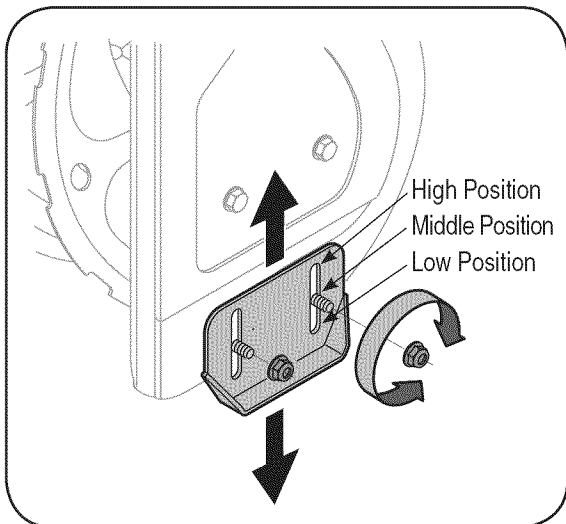
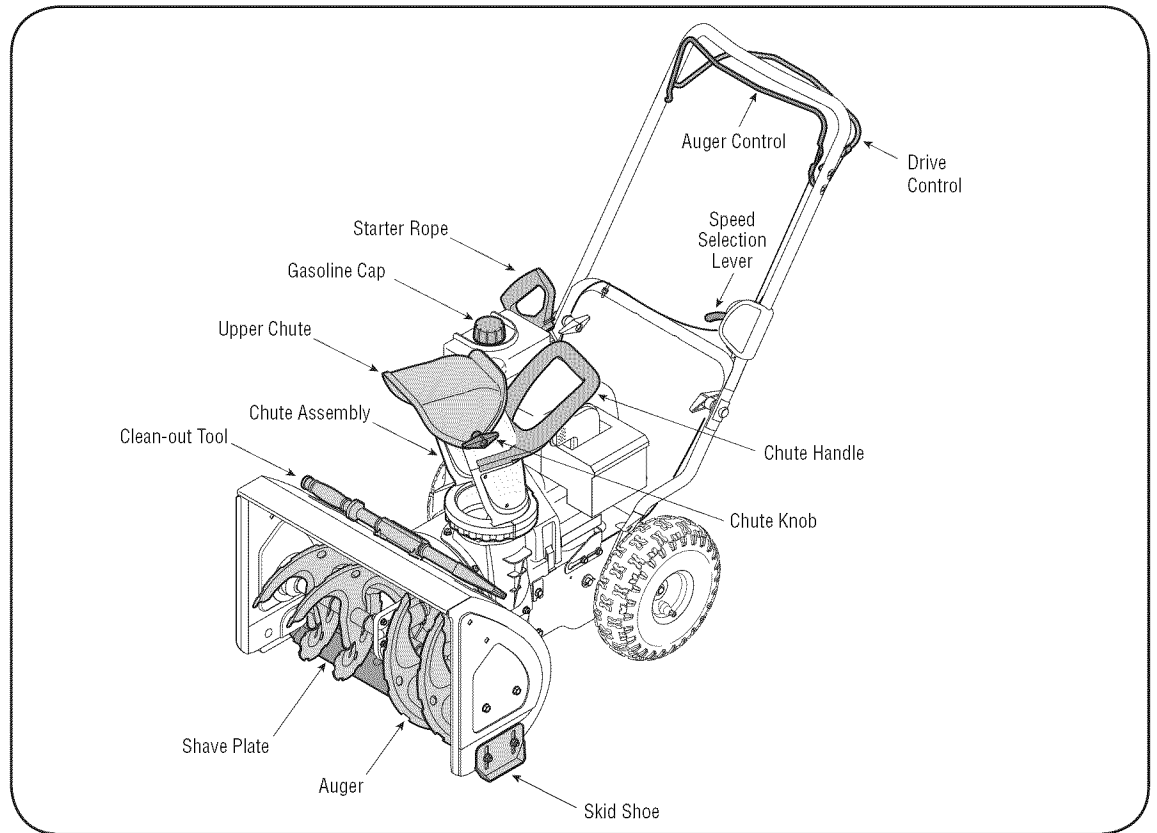

Figure 4
Figure 6
1. Adjust skid shoes by loosening two hex nuts and carriage bolts on each skid shoe, and move skid shoe to the desired position. See Figure 4.
The space between the shave plate and the ground can be adjusted. Refer to Figure 6 for location of shave plate and skid shoes. For close snow removal, place skid shoes in the low position. When the area to be cleared is uneven, place skid shoes in the middle or high position. See Figure 4.
NOTE: Compare Figures 6 & 7 with your equipment and follow description of controls, given below, to get familiar with their operation.